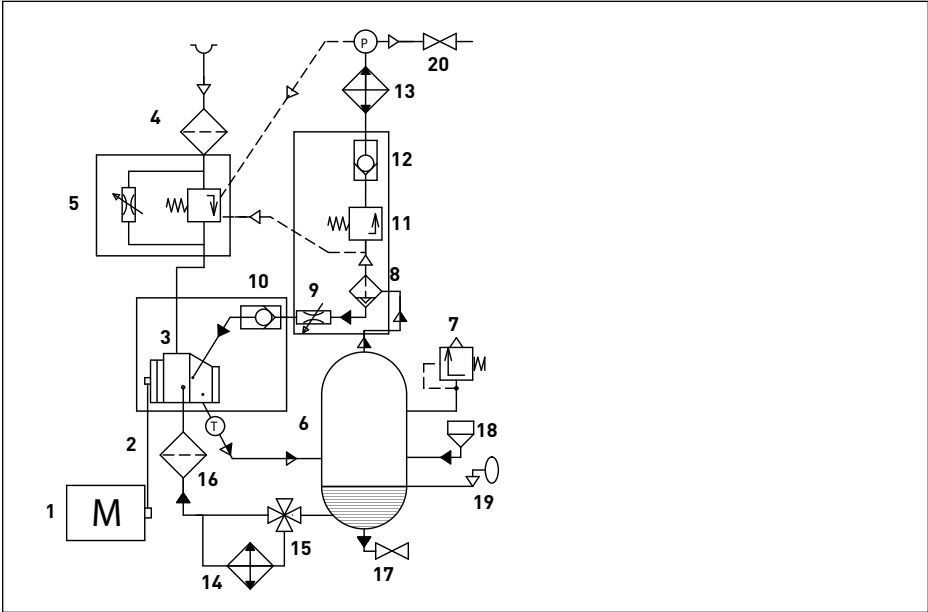
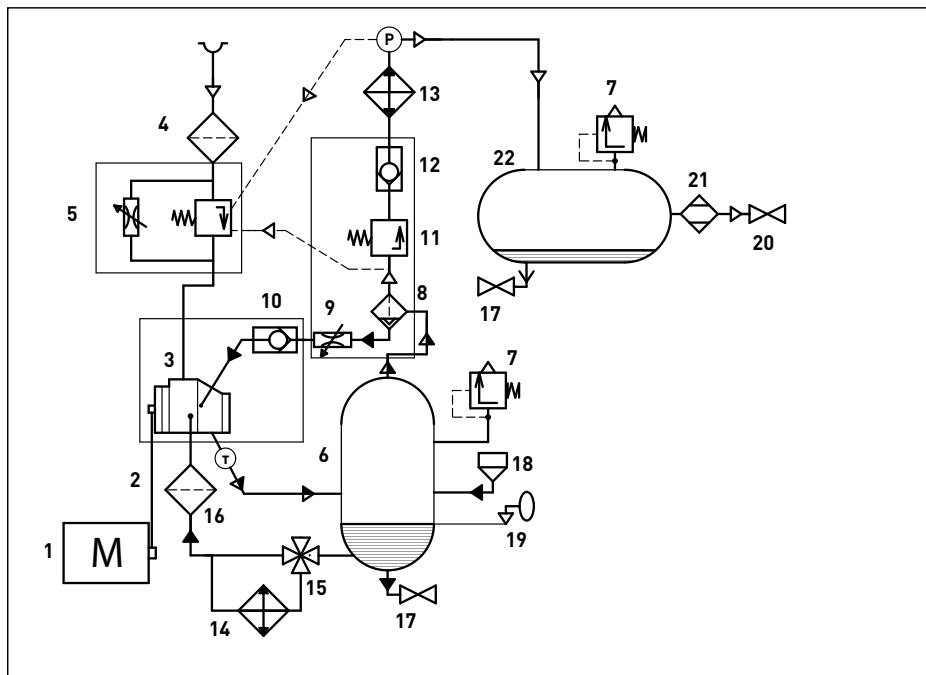

Fig. 2.1 Function diagram A07..-A22..
Fig. 2.2 Function diagram AR07..-AR22.., ARD07..-ARD22..
2.4 Functional description (see Fig. 2.1 and Fig. 2.2)